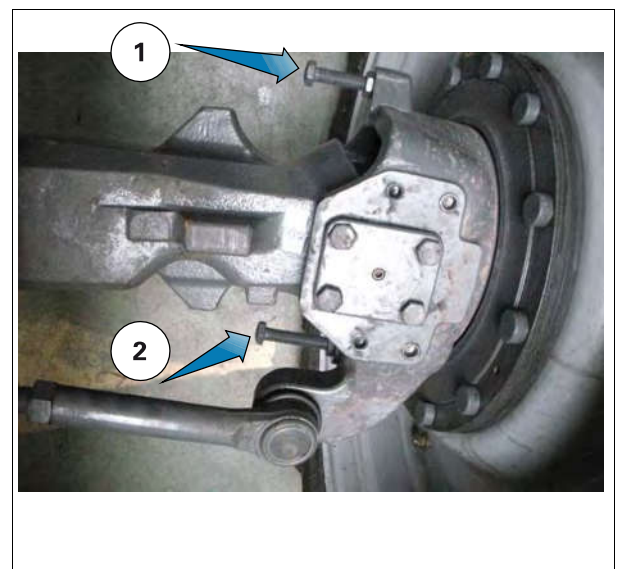

Fig. 8.
3. Start by adjusting the rear stop screw on the side that presents the greatest risk for the front wheel of contact with the immediate environment fig. 8, move the axle over the entire length until it touches the oscillation stop in order to adjust the stop screw while maintaining a minimum clearance of 40 mm (1.6 in) between the tire and the nearest point (e.g.: body/attachments).
5. Repeat the adjustment operations (3) and (4) to adjust the remaining stop screws.